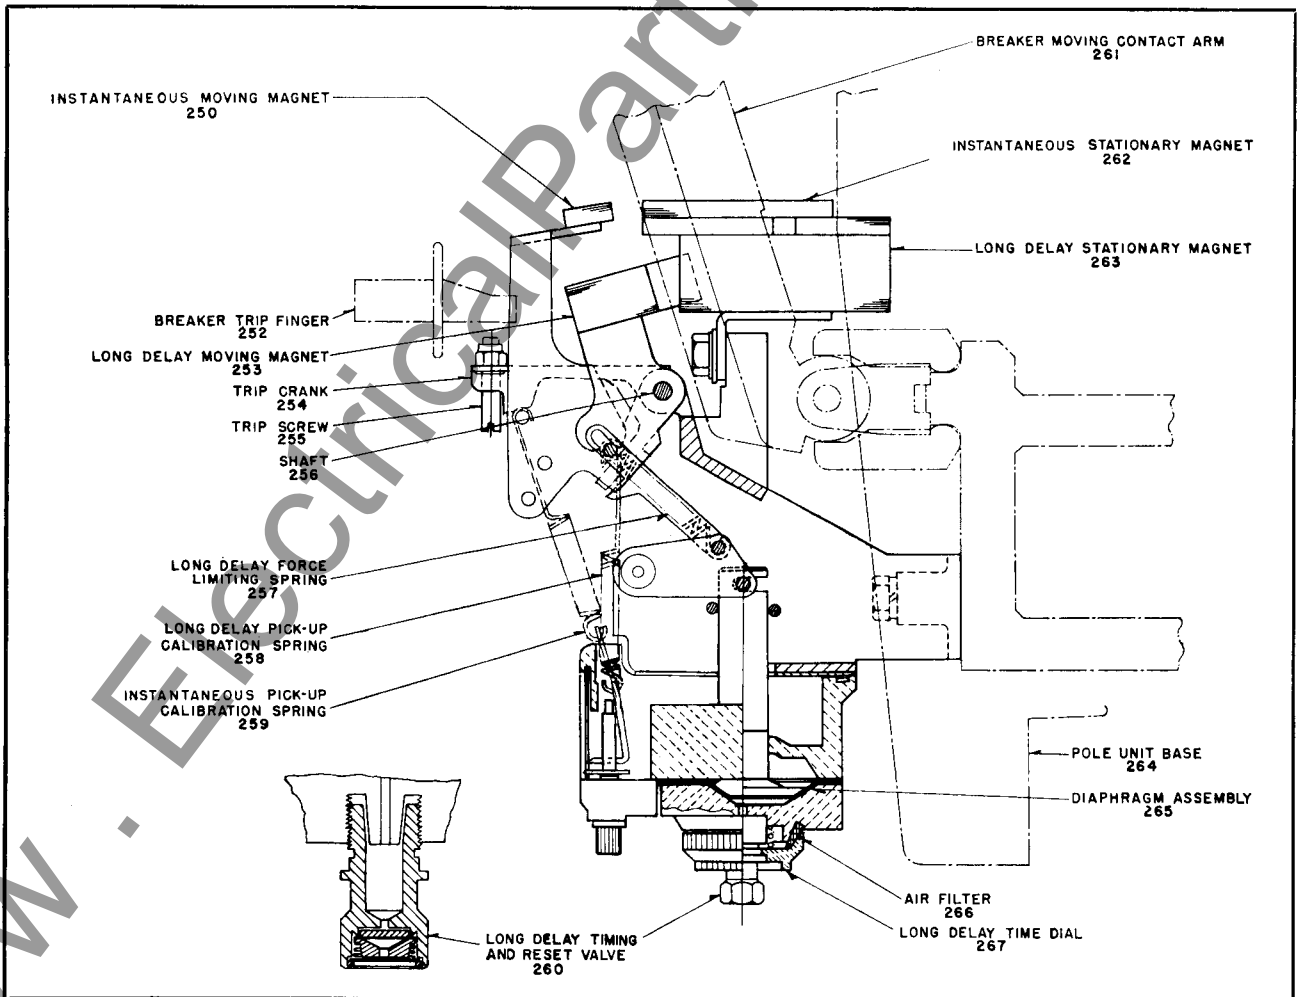

FIG. 6. Cross-Sectional View of Overcurrent Tripping Device with Long Delay and Instantaneous Elements
**Description.** The overcurrent tripping device (Fig. 6), for the circuit breaker is an air delayed magnetic type of device. The time-current characteristics of the trip unit are as follows: